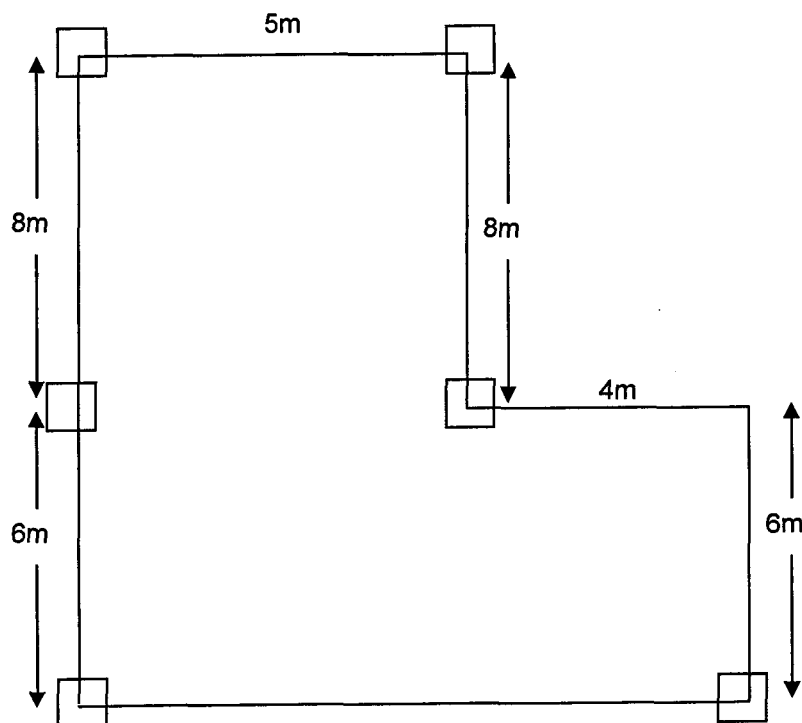

Figure 4/Rajah 4
4. A layout plan of a concrete slab is shown in **Figure 4**. Propose a suitable layout for supporting beams needed to support the solid slab and calculate the maximum positive and negative moments on the slab system. Assume that the Live Load is 2kN/m^2 , weight of finishing is 0.75kN/m^2 and the thickness of slab is 200mm .